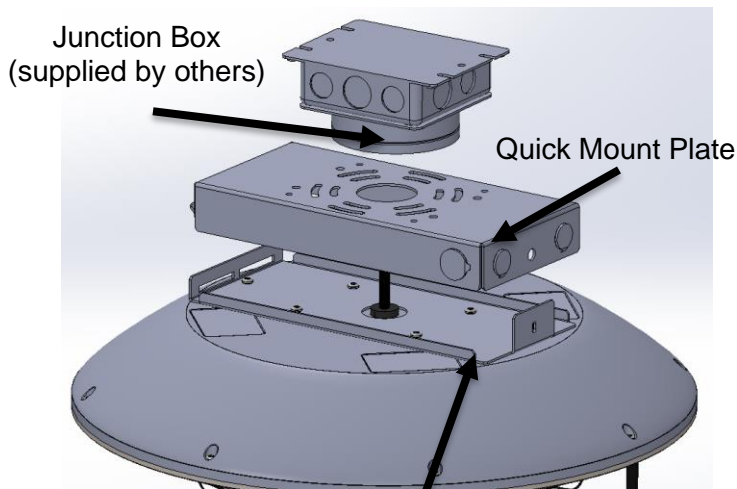

Figure 2.
2. Install the quick mount plate onto a wet location junction box (supplied by others) using the hardware supplied. (fig. 2)